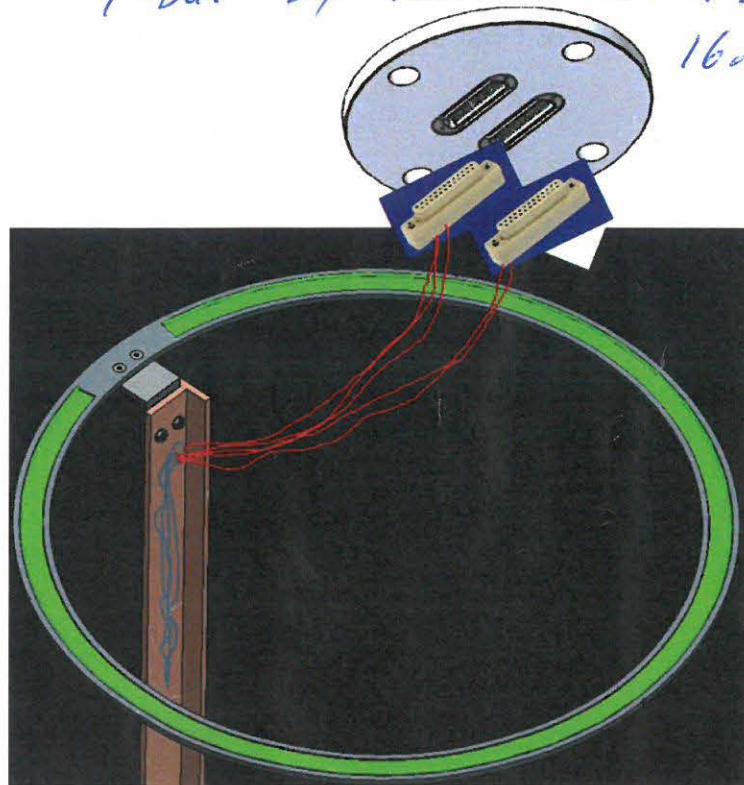

Figure 3-2 Connector leads layout
- e. Terminate the leads (80) in two D-sub 50 pin female connectors provided.
- ii. Length of leads between female connectors and last tie-off point on the perfboard, above the uppermost diode is 12". Depicted by the red wires in Fig 3-2 below.